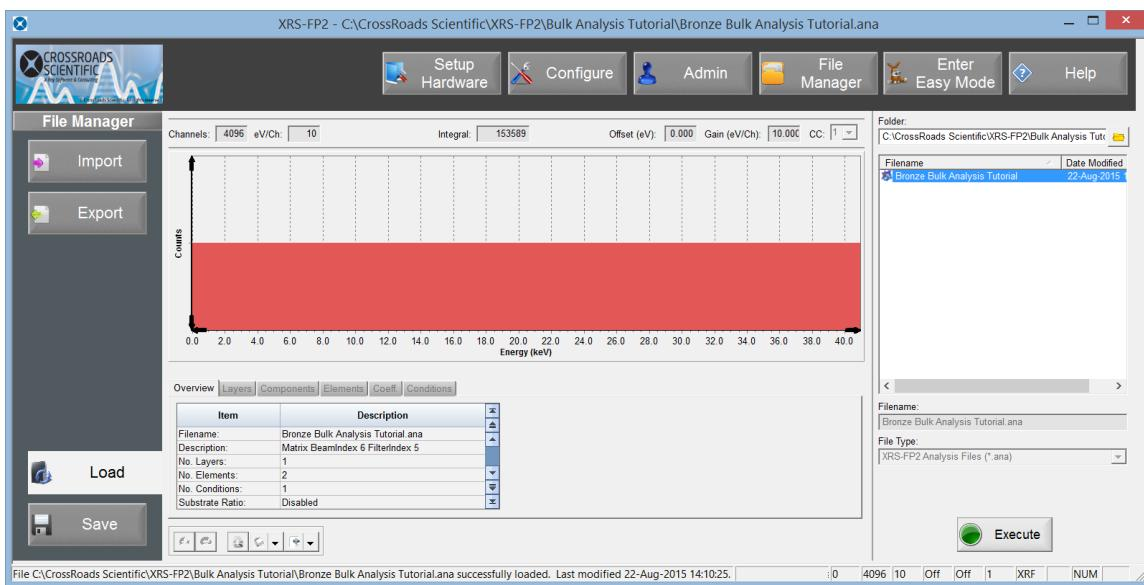

Figure 2. File Manager. Open the Bronze Bulk Analysis Initial ANA file, e.g. “Bronze Bulk Analysis Tutorial.ana”.
2. Select the **File Manager** button from the top ribbon, then select the **Load** button and locate the “Bronze Bulk Analysis Tutorial.ana” file in the “C:\CrossRoads Scientific\XRS-FP2\Bulk Analysis Tutorial” directory (or equivalent location). Select the “Bronze Bulk Analysis Tutorial.ana” file in the right-hand panel of XRS-FP2 and either double click or use the **Execute** button to load the file. See figure 2 below.